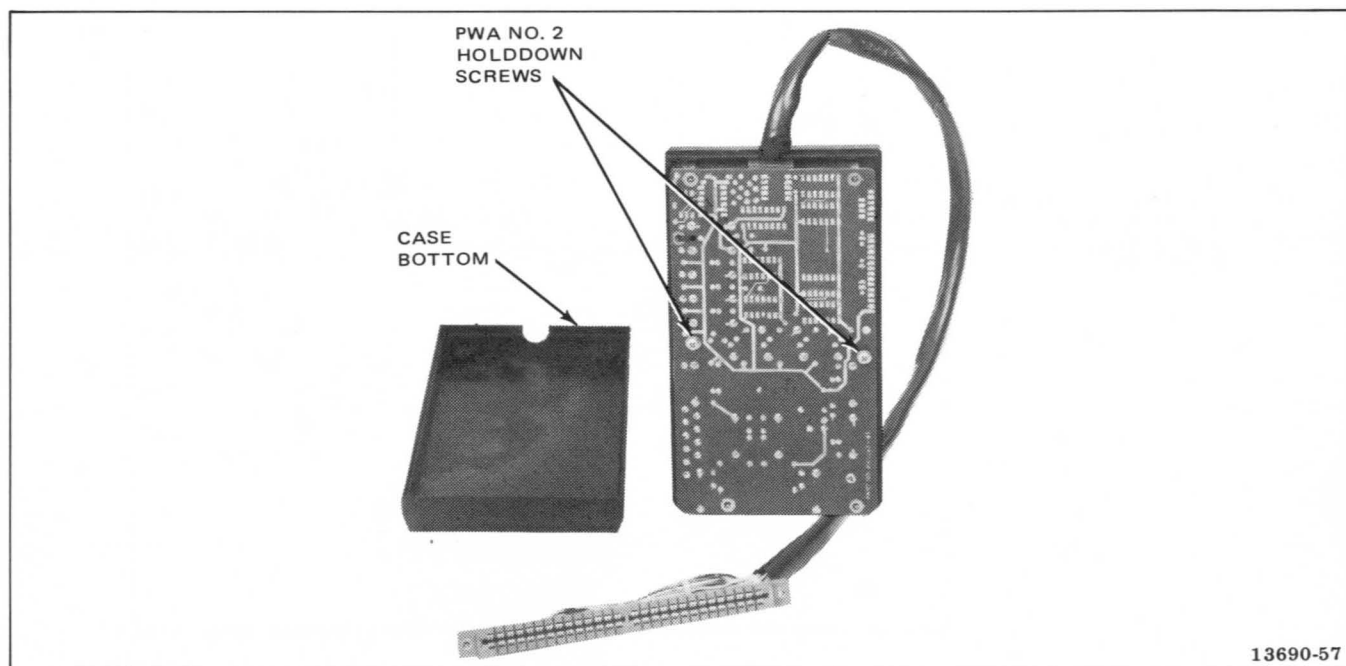
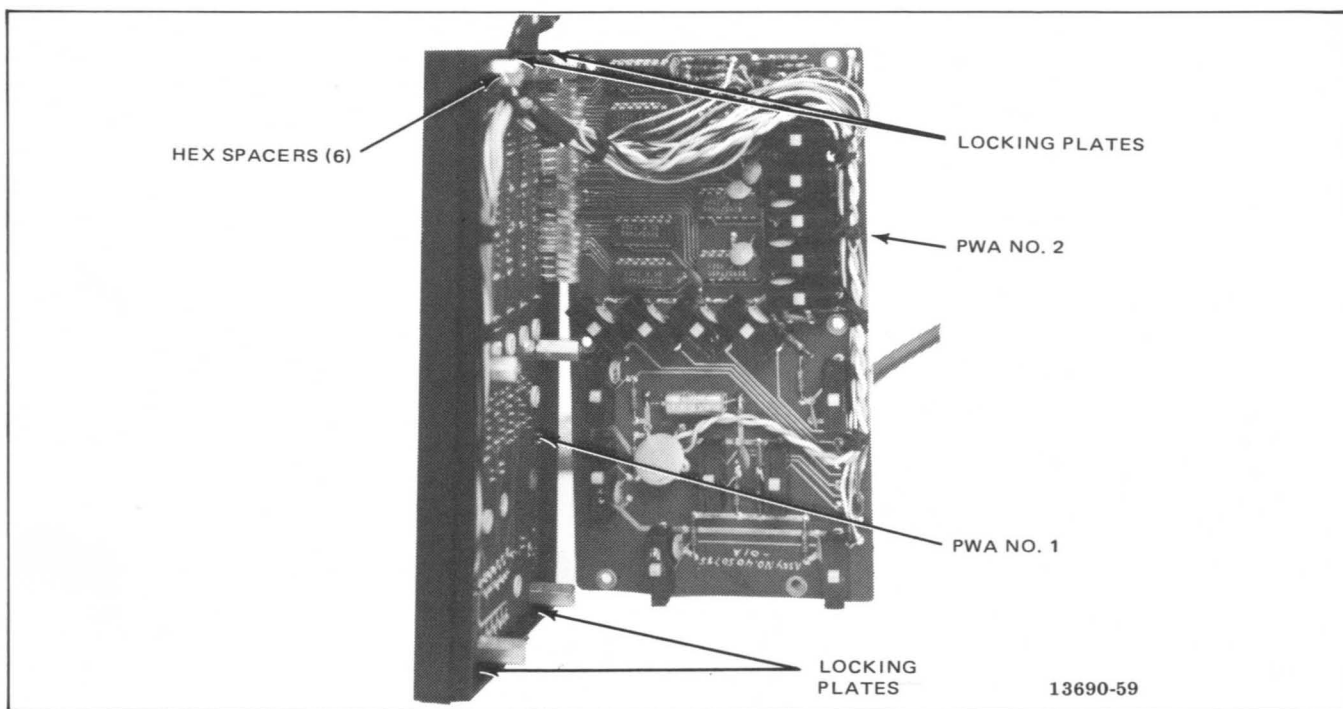

Figure 2-25. Control Unit, Case Bottom Removed
Figure 2-26. Inside View of Control Unit
5. Remove the case bottom of the control unit (Figure 2-25).
6. Remove two screws shown in Figure 2-25 to gain access to six hex spacers shown in Figure 2-26.
7. Remove the four locking plates (Figure 2-26) that prevent the four outer hex spacers from turning.